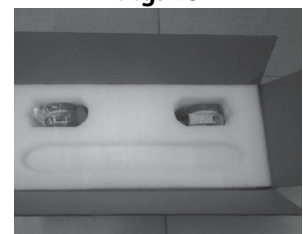

Fig. 30
6. Remove the foam sheets as shown in fig.30.